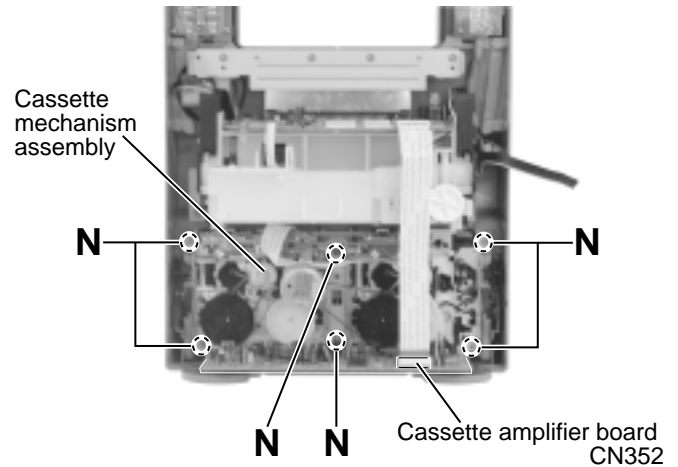

Fig.24
■Removing the cassette mechanism assembly (See Fig.24)